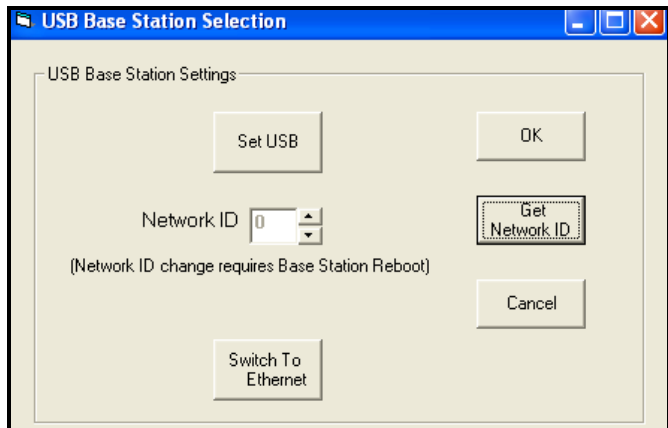

Figure 2-12: USB Base Station Settings
- a. If you need to change the Base Station settings, click the Change Base Stations Settings button. The USB Base Station Settings window opens, as shown in Figure 2-12 below.